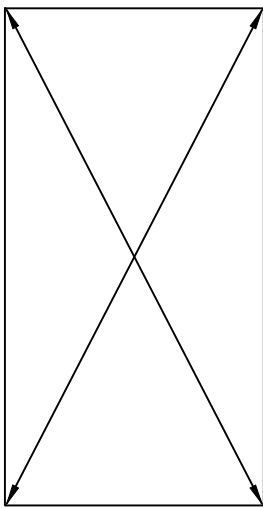

FIGURE 9
2. Door frame shall be installed square and plumb. FIGURE 9 & 10, below.